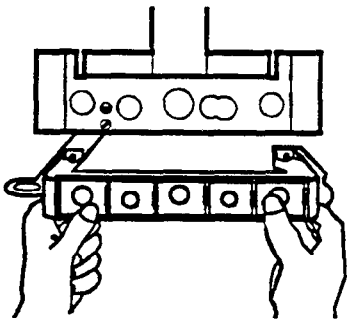

Fig. 21
- Attach plastic jig plate to bottom bracket using 4.6 mm x 10 hexagonal screws provided (fig. 21).
- Fit copper tails and washers to jig plate, the mains water inlet tail (M) is the shorter of the two 15 mm tails